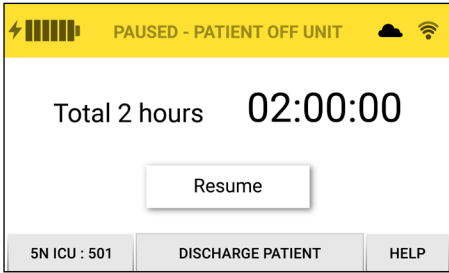

Figure 8. Paused - Patient off unit screen
5. The Paused - Patient Off Unit screen will display the new remaining pause time and indicate that the patient is off unit for an extended period of time. (Fig. 8)